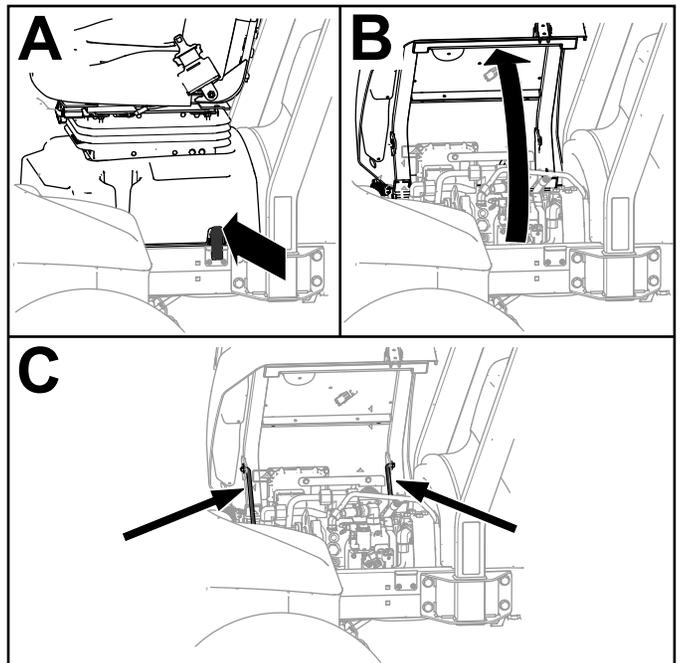

Figure 4
1. Unlatch the seat base (A of Figure 4).
2. Tilt the seat and base open (B of Figure 4).
3. Support it with the prop rods (C of Figure 4).